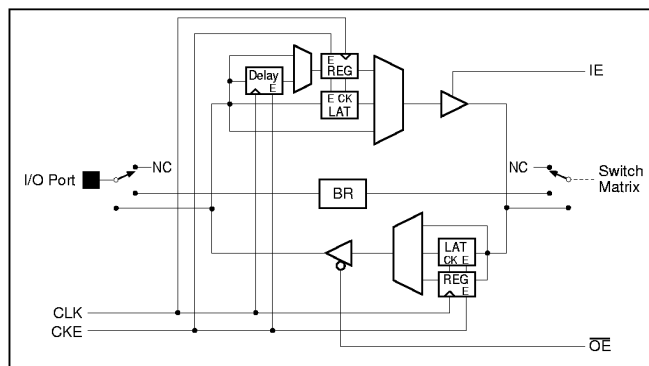

Figure 4. Programmable I/O Port
Each signal line in the Switch Matrix is connected to a programmable I/O Port. The functional attributes of individual I/O Ports can be programmed independently. The I/O Port attributes include its signal direction (in, out or bidirectional), data flow mode (flow-through, registered or latched), and pull-up current. Figure 4 shows the structure of the programmable I/O Port. The sources for the four control signals: clock (CLK), clock enable (CKE), input enable (IE), and output enable (\overline{OE}) are also programmable and are described later in the section "I/O Control Signals."